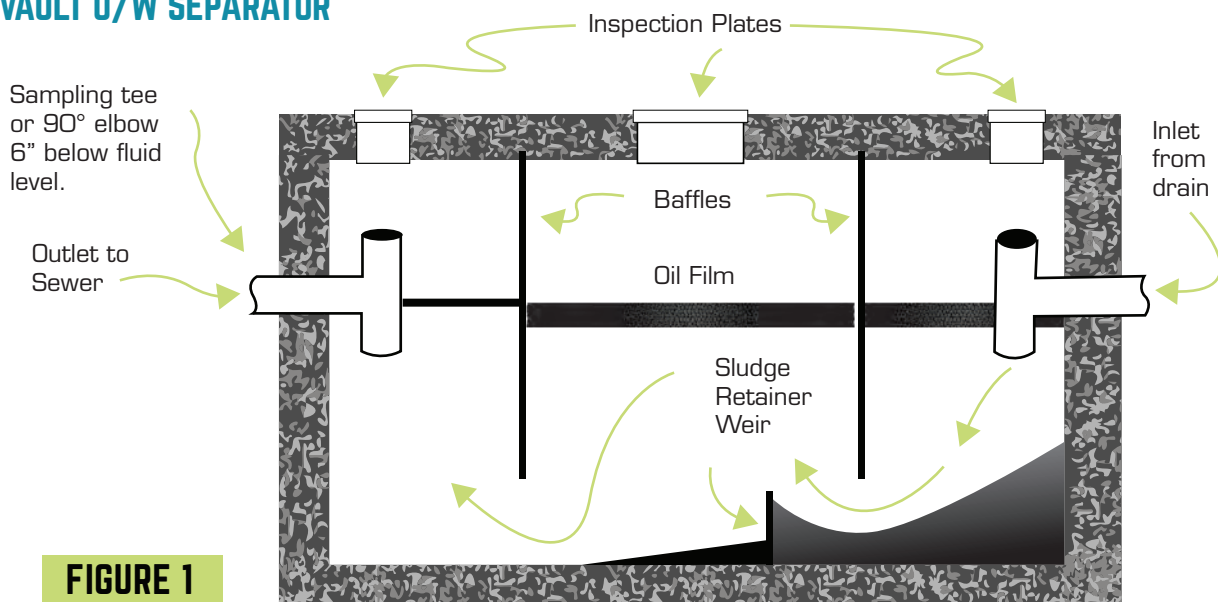

FIGURE 1
Standard baffle oil/water (O/W) separators are large-capacity, underground cement vaults installed between a drain and the connecting sewer pipe. These vaults are designed with baffles to trap sediments and retain floating oils. The large capacity of the vaults slows down the wastewater, allowing oil to float to the surface and solid material to settle out (Figure 1).
- Drawing of the oil/water separator with capacities and dimensions. The outlet to the sewer must have a sampling "T" installed. (See Figure 1.)